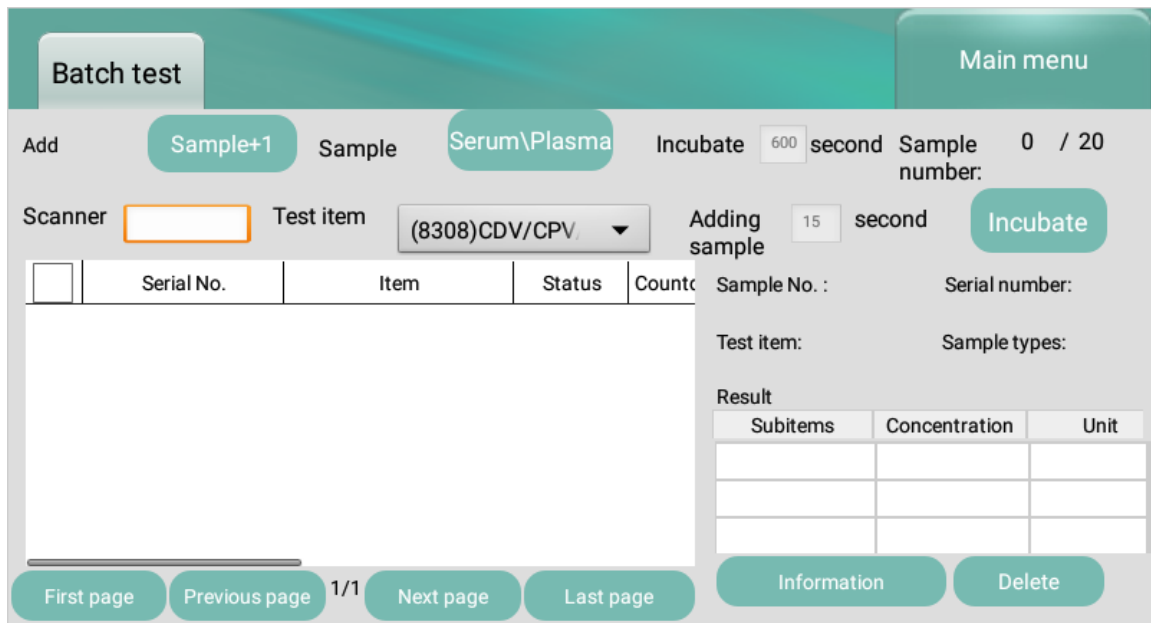

Figure 4.3.1
1. The screen for batch testing is shown in Figure 4.3.1. The user can select the sample type and test item and add or delete the item to be tested.